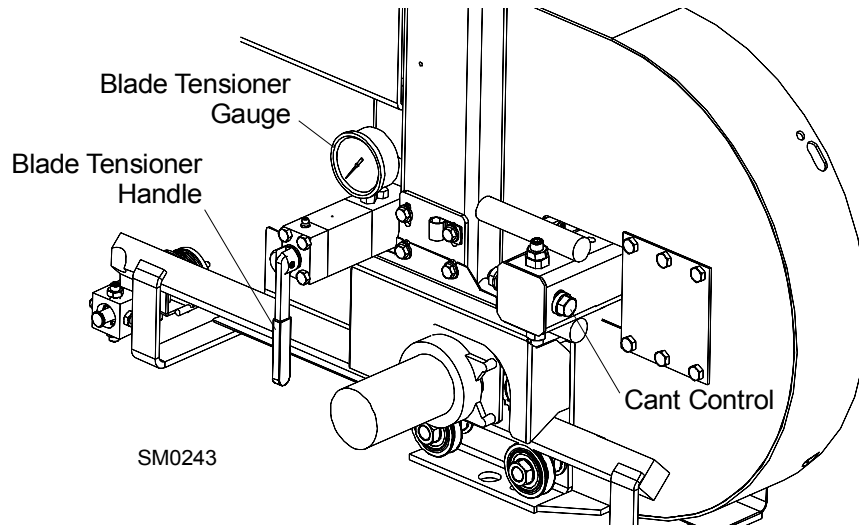

FIG. 2-6
See Figure 2-6. Tension the blade by turning the hydraulic tensioning handle clockwise until the tension gauge indicates the recommended tension.
4. To adjust where the blade travels on the blade wheels, use the cant control shown in **Figure 2-6**.